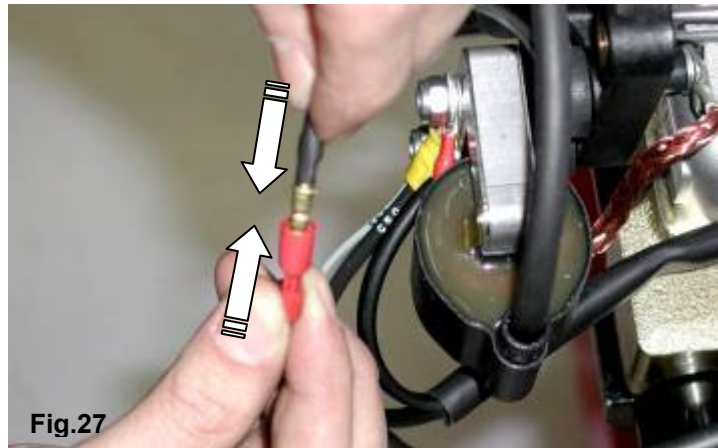

Fig.27
2.9.8 CONNECT THE H.T COIL CABLE TO THE HARNESS TERMINAL (SEE FIG.27).